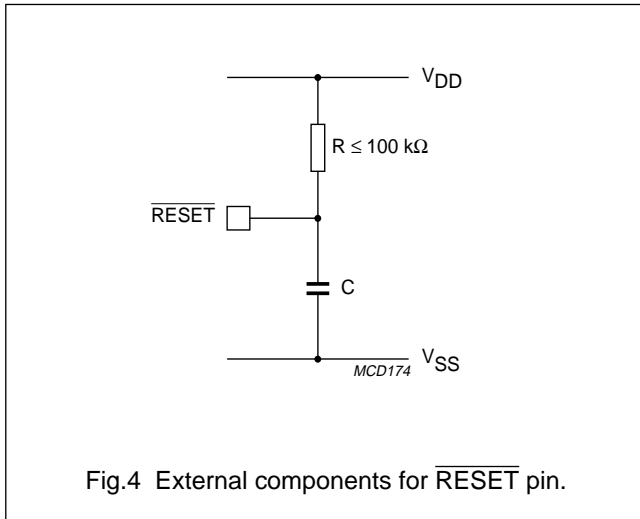

Fig.4 External components for  $\overline{\text{RESET}}$  pin.
- If  $V_{DD}$  has a slow rise time, such that after the time period ( $t_{Vref} + t_d$ ) has elapsed the supply voltage is still below the minimum operation voltage ( $V_{min}$ ), external components are required (see Figs 4 and 7). To guarantee a correct reset operation, ensure that the time constant  $RC \geq 8 \times t_{VDD}$ .